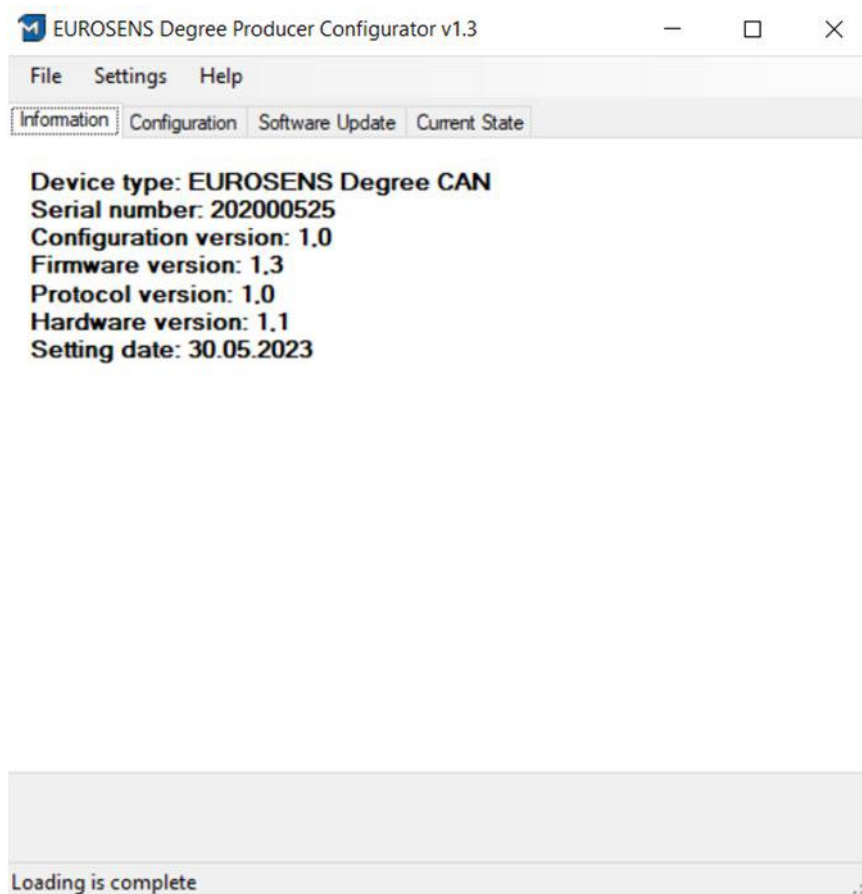

fig. 4.6. «Information» tab
- Tab "**Information**" (fig. 4.6), where the device type, serial number, configuration versions, firmware, protocol, hardware and date of calibration of the sensor are indicated.